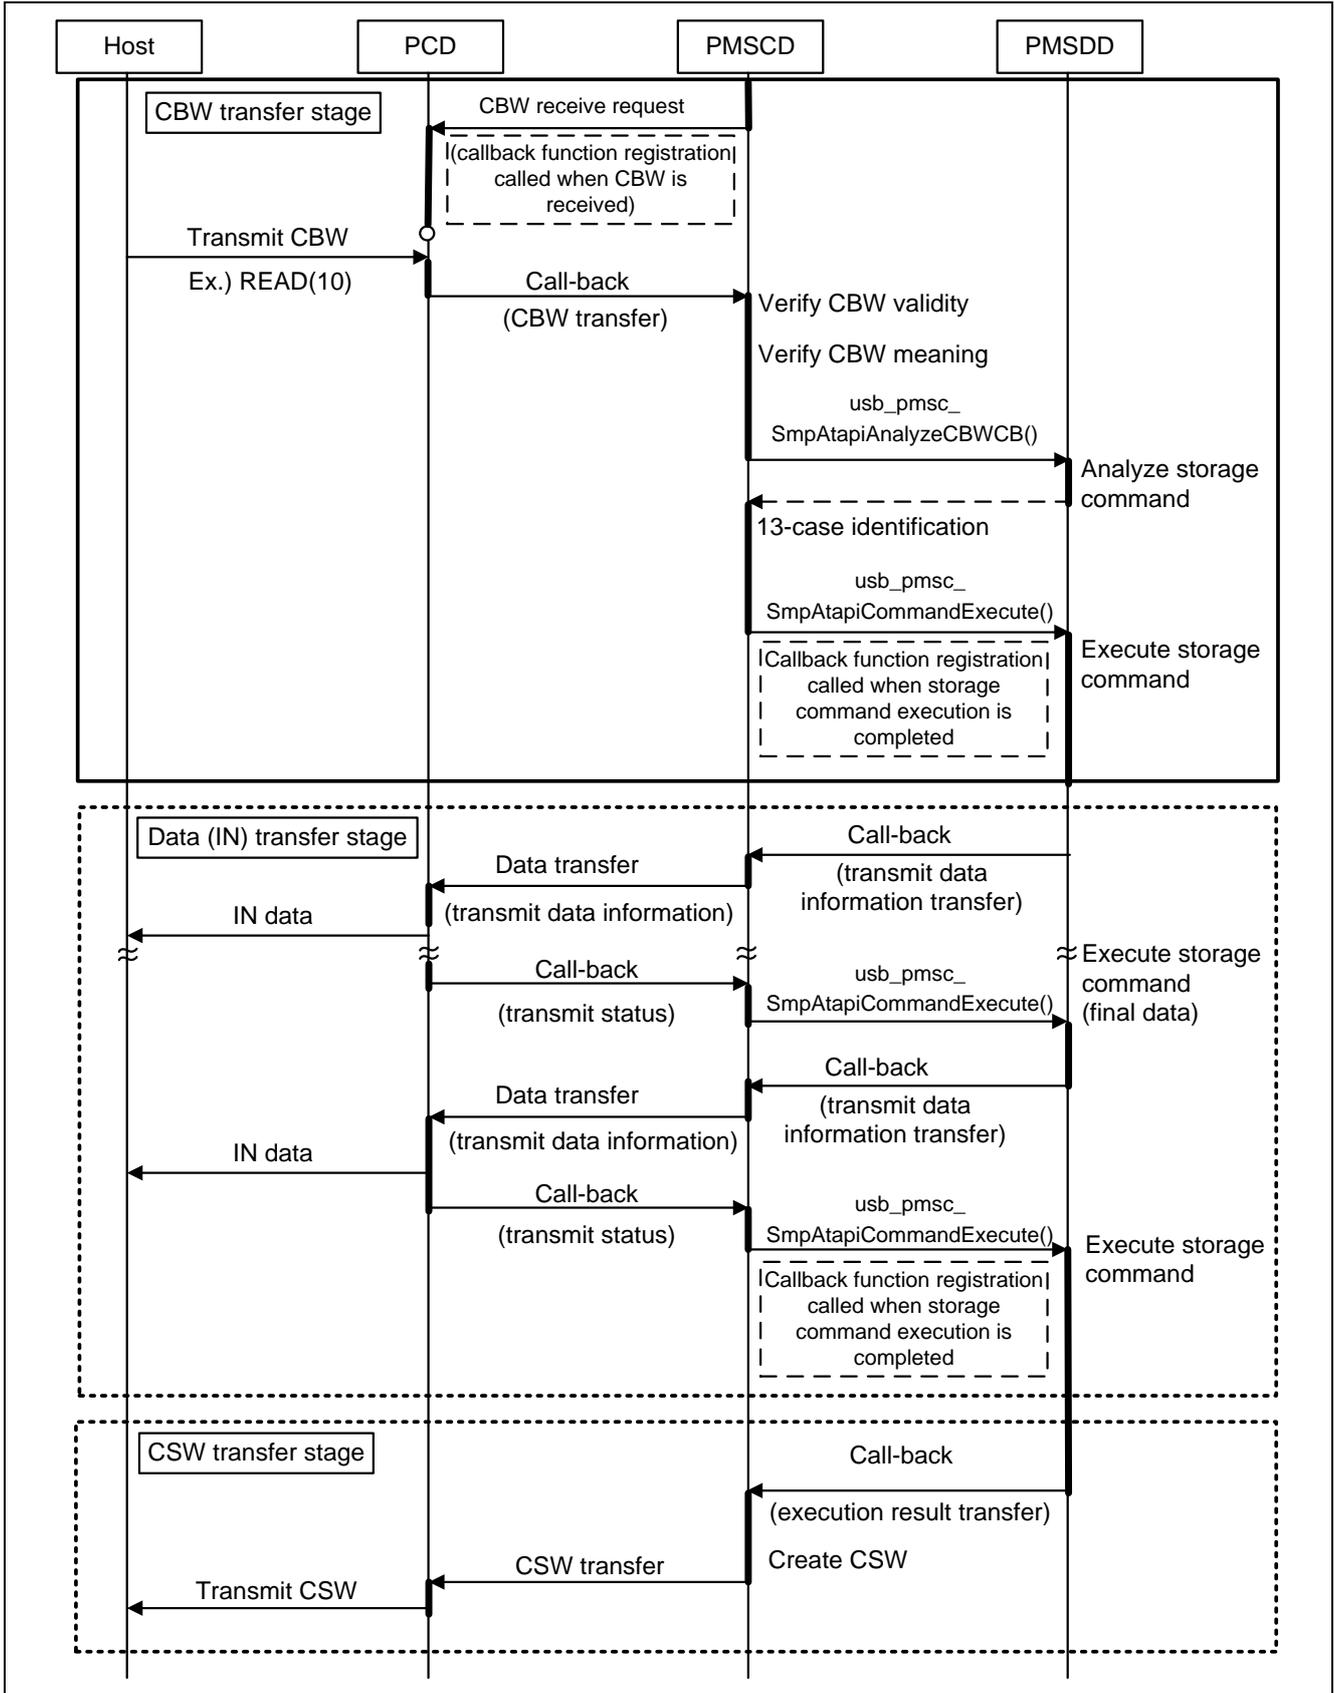

Figure 5-3 Sequence of Storage Command for Transmit (IN) Data
5.2.3 Sequence with storage command for transmit (IN) data
Figure 5-3 shows the sequence of storage command when there is transmit (IN) data from the peripheral side.
(1) CBW transfer stage